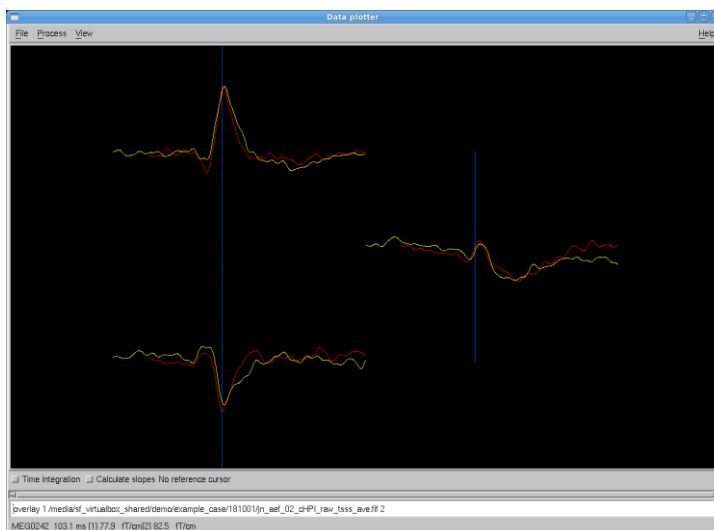

Figure 16: On-line average of AEF. The primary response is typically around 100ms (N100m).
6. Monitor the on-line averages in Data Plotter, **shift + left mouse and drag** to zoom in, primary response should be approximately 100 ms (see Figure 16).